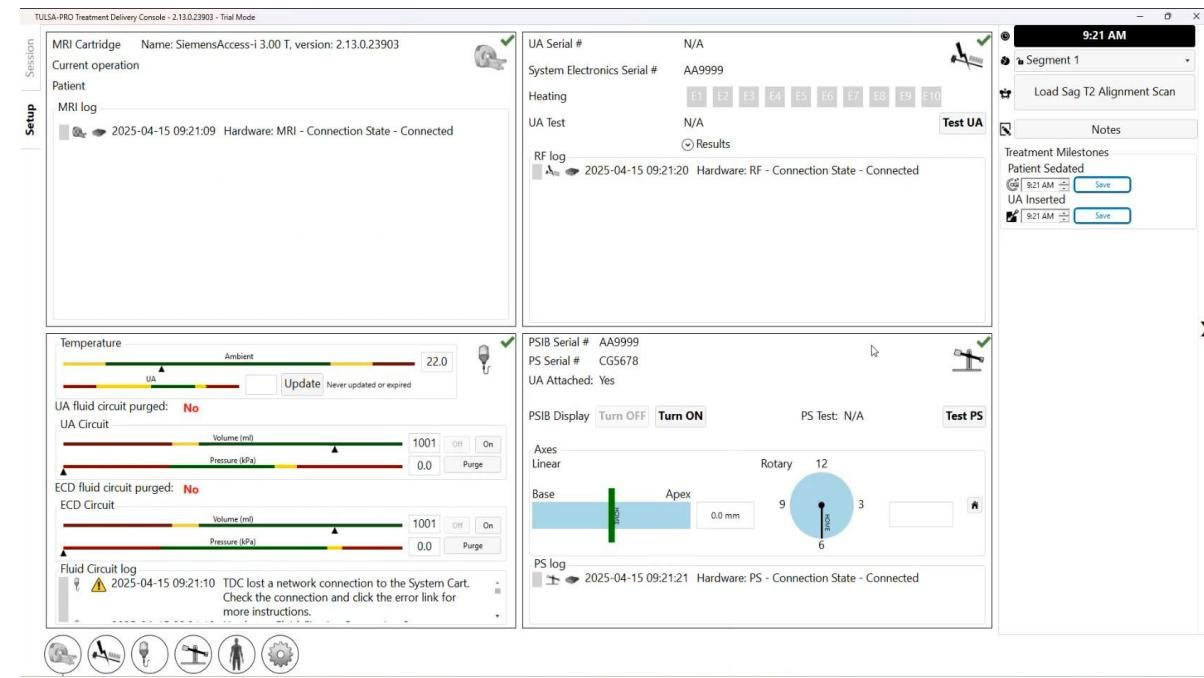

Figure 7: Setup workspace of the TDC software
3. After selecting **New Session**, you will enter the **Setup Workspace** (Figure 7) where you can ensure all equipment is functioning properly before proceeding.